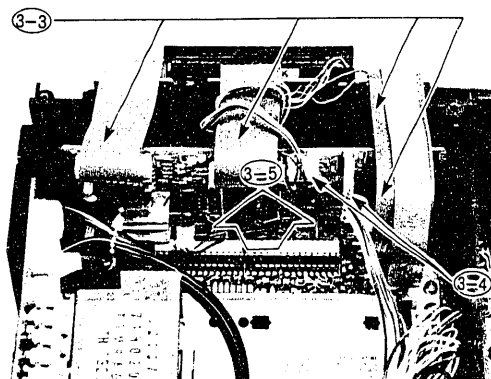

Fig. 12 V.S Tuning P.C. Board
3. V.S Tuning P.C. Board (Fig. 12)